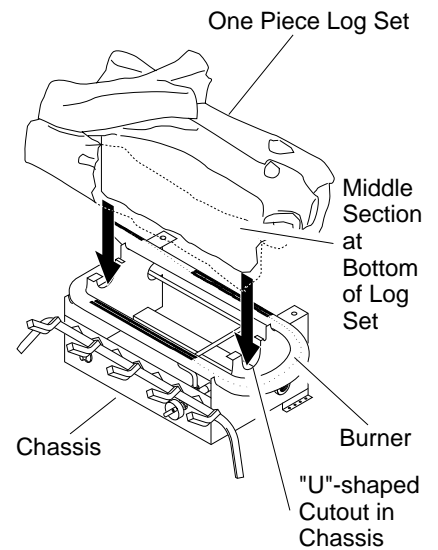

Figure 19 - Installing Golden Oak or Birch One-Piece Log Set
1. Place one-piece log set on grate to fit as illustrated in Figure 19. Make sure middle section at bottom of log set is seated into "U"-shaped cutout in center of chassis (see Figure 19). Log will fit securely on chassis. **Note:** 36" and birch models have more features but fit on the chassis the same. **IMPORTANT:** Make sure log does not cover any burner parts.